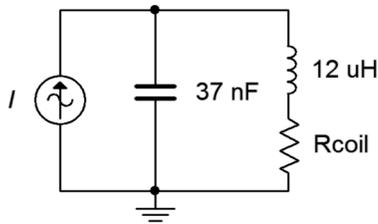

Figure 8.6
20. For the circuit shown in Figure 8.6, determine the resonant frequency, system  $Q$  and bandwidth. If the source is 3 volts, determine the inductor and capacitor currents at resonance. Assume the inductor's  $Q$  is 30.